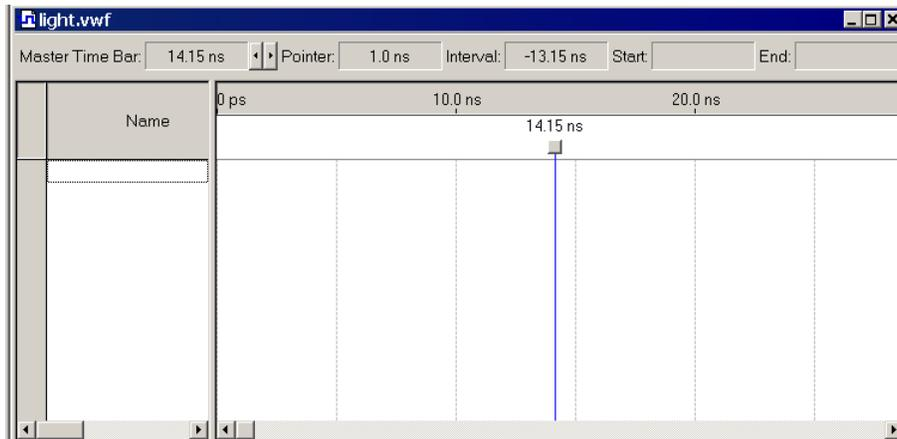
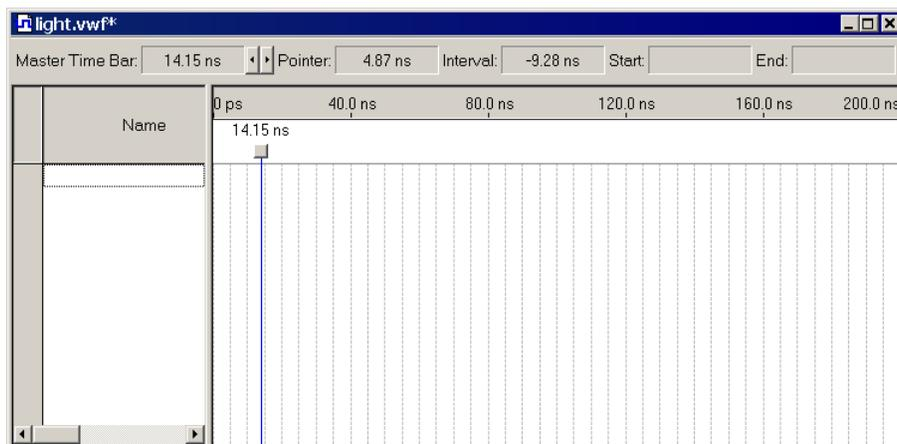

Figure 32. The Waveform Editor window.
Figure 33. The augmented Waveform Editor window.
- The Waveform Editor window is depicted in Figure 32. Save the file under the name *light.vwf*; note that this changes the name in the displayed window. Set the desired simulation to run from 0 to 200 ns by selecting **Edit > End Time** and entering 200 ns in the dialog box that pops up. Selecting **View > Fit in Window** displays the entire simulation range of 0 to 200 ns in the window, as shown in Figure 33. You may wish to resize the window to its maximum size.